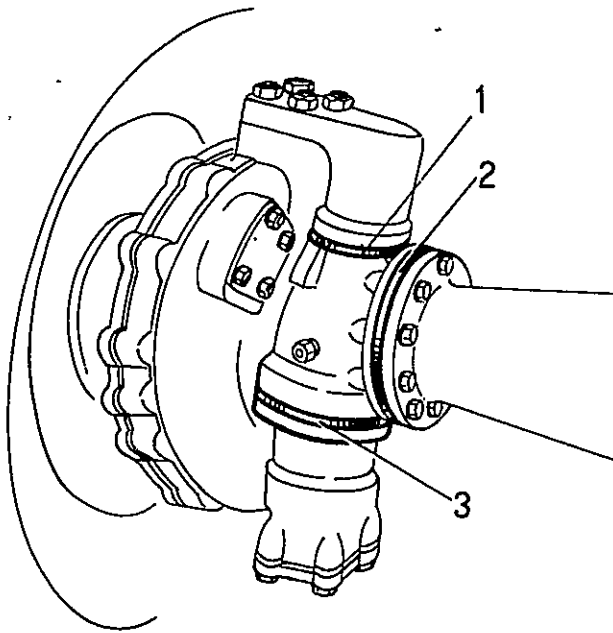

Fig. 4-19 Adjustment of the backlash of the media-driving bevel gear.
2. The adjustment of backlash of the media-driving bevel gear (Fig. 4-19).